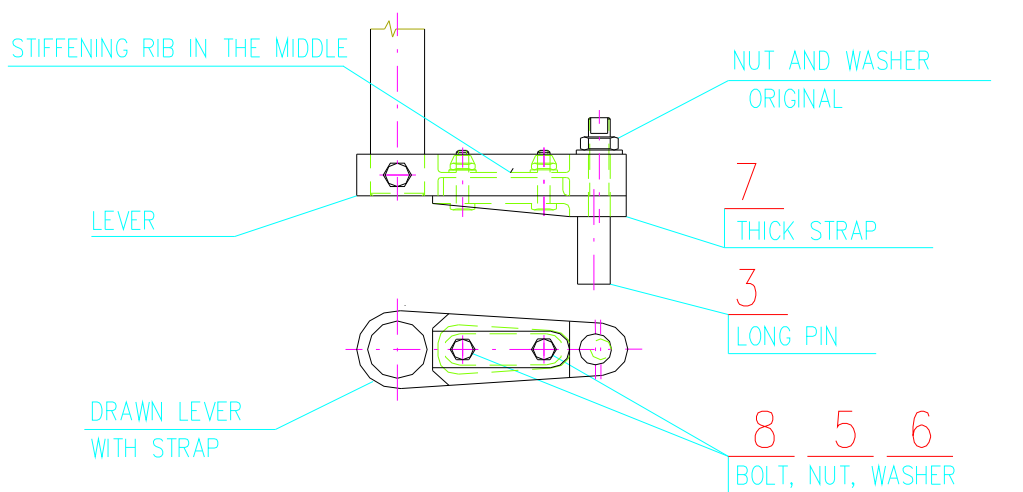

Fig. 10
7. Put the new strap, pos. 7, on the new pin, pos. 3, according to Fig. 10.